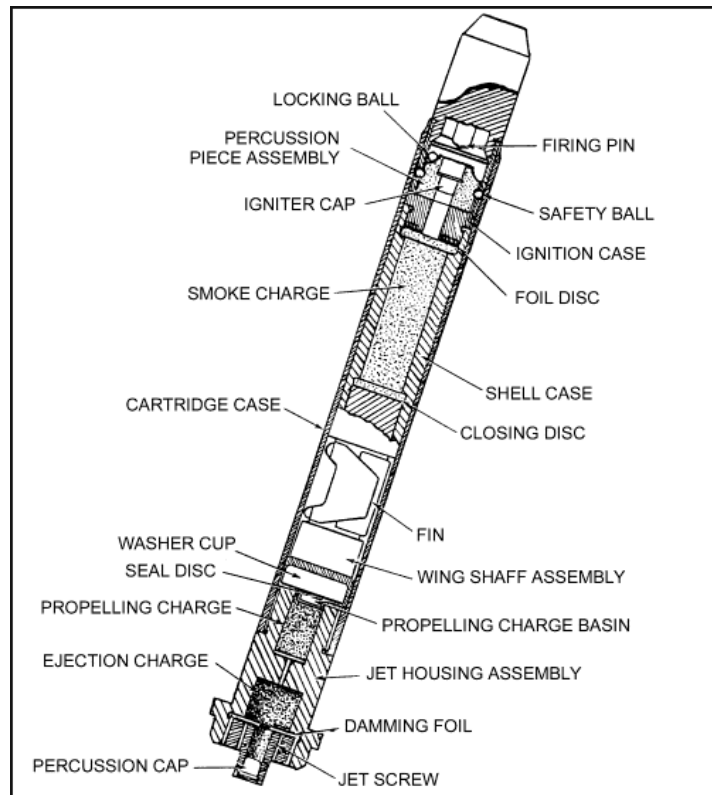
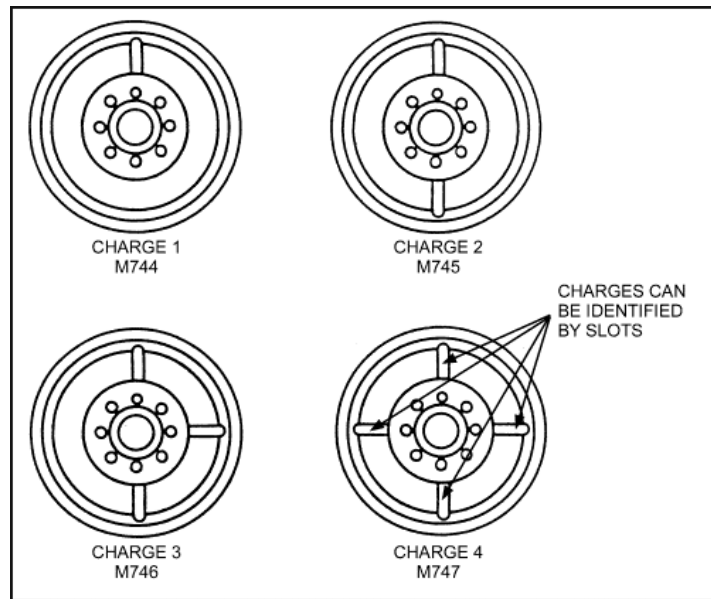

Figure A-14. The 22-mm subcaliber cartridge cross-section.
Figure A-15. Base of subcaliber cartridges--charge one through four.
(2) When not loaded with a subcaliber cartridge, the sabot can be used as a dummy round for crew drill or the squad leader can "load" it with an expended cartridge case to induce a "misfire." The sabot can be reloaded and fired repeatedly for training. It is stored without the subcaliber cartridge in a packing box containing three sabot devices.
b. **The 22-mm Subcaliber Cartridge.** The 22-mm subcaliber cartridges (Figure A-14) are boxed and issued by charge: M744, charge one; M745, charge two; M746, charge three; M747, charge four. The charges can readily be identified day or night by the number of slots in the base of the subcaliber cartridge case (Figure A-15).